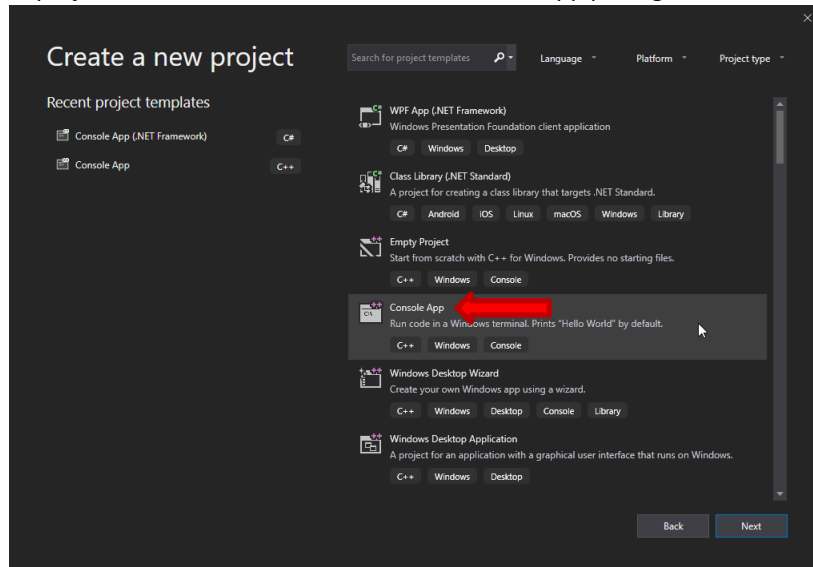

Figure 31 - VS2019 C++ New Project
- 1) Start a new project in Visual Studio 2017, a C/C++ Console App per Figure 31 - VS2019 C++ New Project